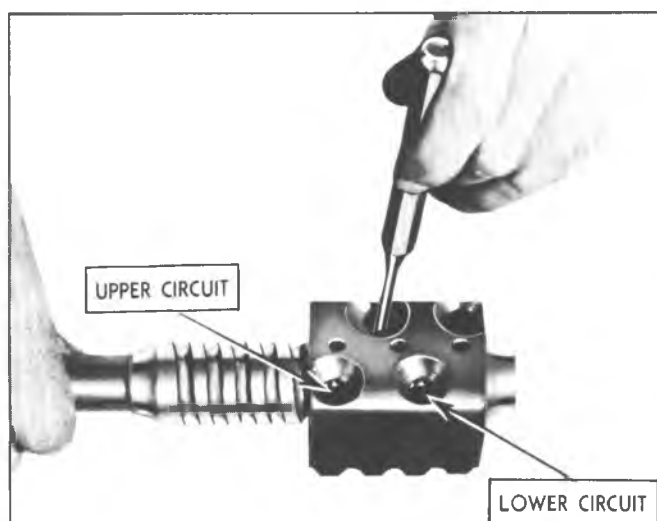

Fig. 12--Filling Ball Circuits--Corvette
5. **Corvette only (figs. 12 and 13):**
NOTE: In cases where the balls are stopped by the end of the worm, hold down those balls already dropped into the nut with the blunt end of a clean rod or punch (fig. 12) and turn the worm in the reverse direction a few turns. The filling of the circuit can then be continued. It may be necessary to work the worm back and forth, holding the balls down first in one hole and then the other, to close